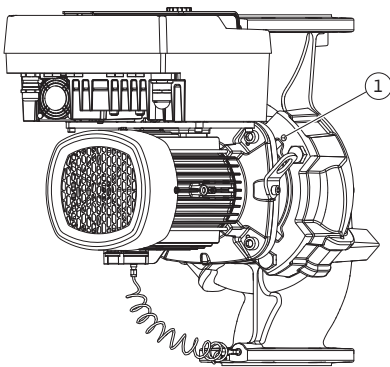

Fig. 11: Pushing off the motor impeller unit via threaded holes (depending on pump type)
- Detach the motor impeller unit (see Fig. 4) from the pump housing. Depending on the pump type (see Fig. I to III), there are different ways to do this. For the pump type Fig. I loosen the screws (Item 29). Push the motor impeller unit off the pump housing. For pump type Fig. II and Fig. III use the two threaded holes (Fig. 11, Item 1). Use suitable screws provided on-site (e.g. M10 x 25 mm) for this.
5. Press the motor impeller unit (see Fig. 4) off the pump housing. Use the two threaded holes for this (see Fig. 11). Screw M10 screws with a suitable length into the threaded holes to loosen the seat.